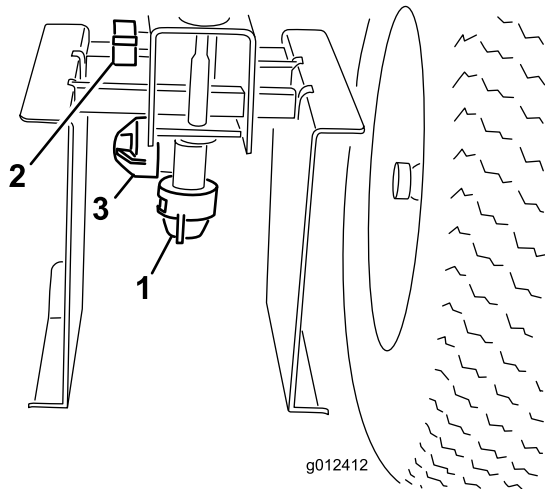

Figure 24
4. Loosen the screw securing the paint nozzle tube to the boom arm (Figure 24).